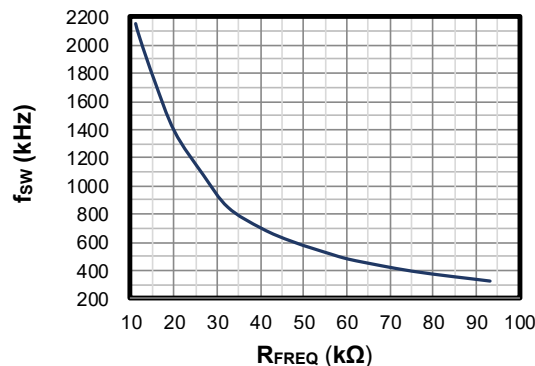

Figure 1: R3 Frequency Resistance
7. The MPQ4315's oscillating (switching) frequency can be configured by an external frequency resistor (R3). R3 can be estimated based on the switching frequency (f_{sw}) vs. frequency resistance (R_{FREQ}) curve (see Figure 1).